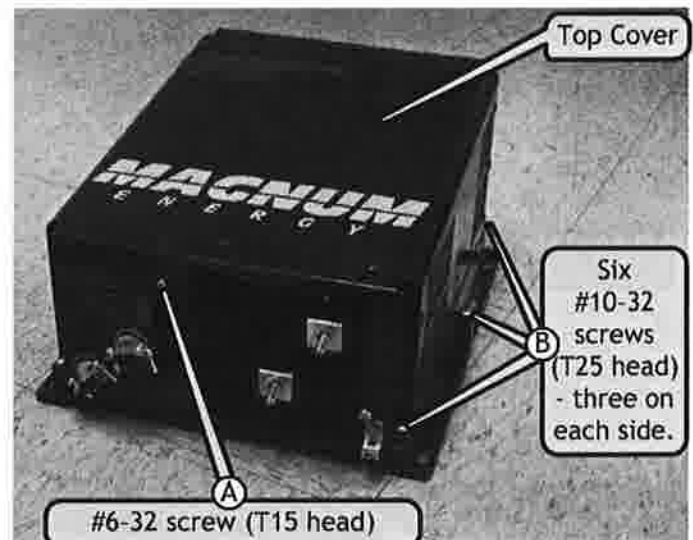

Figure 1, Top Cover Screws
3.1.1 Locate and remove the six #10-32 screws (T25 head) (figure 1, item B) holding the cover to the inverter base and the #6-32 screw (T15 head) (figure 1, item A) on the front of the inverter.